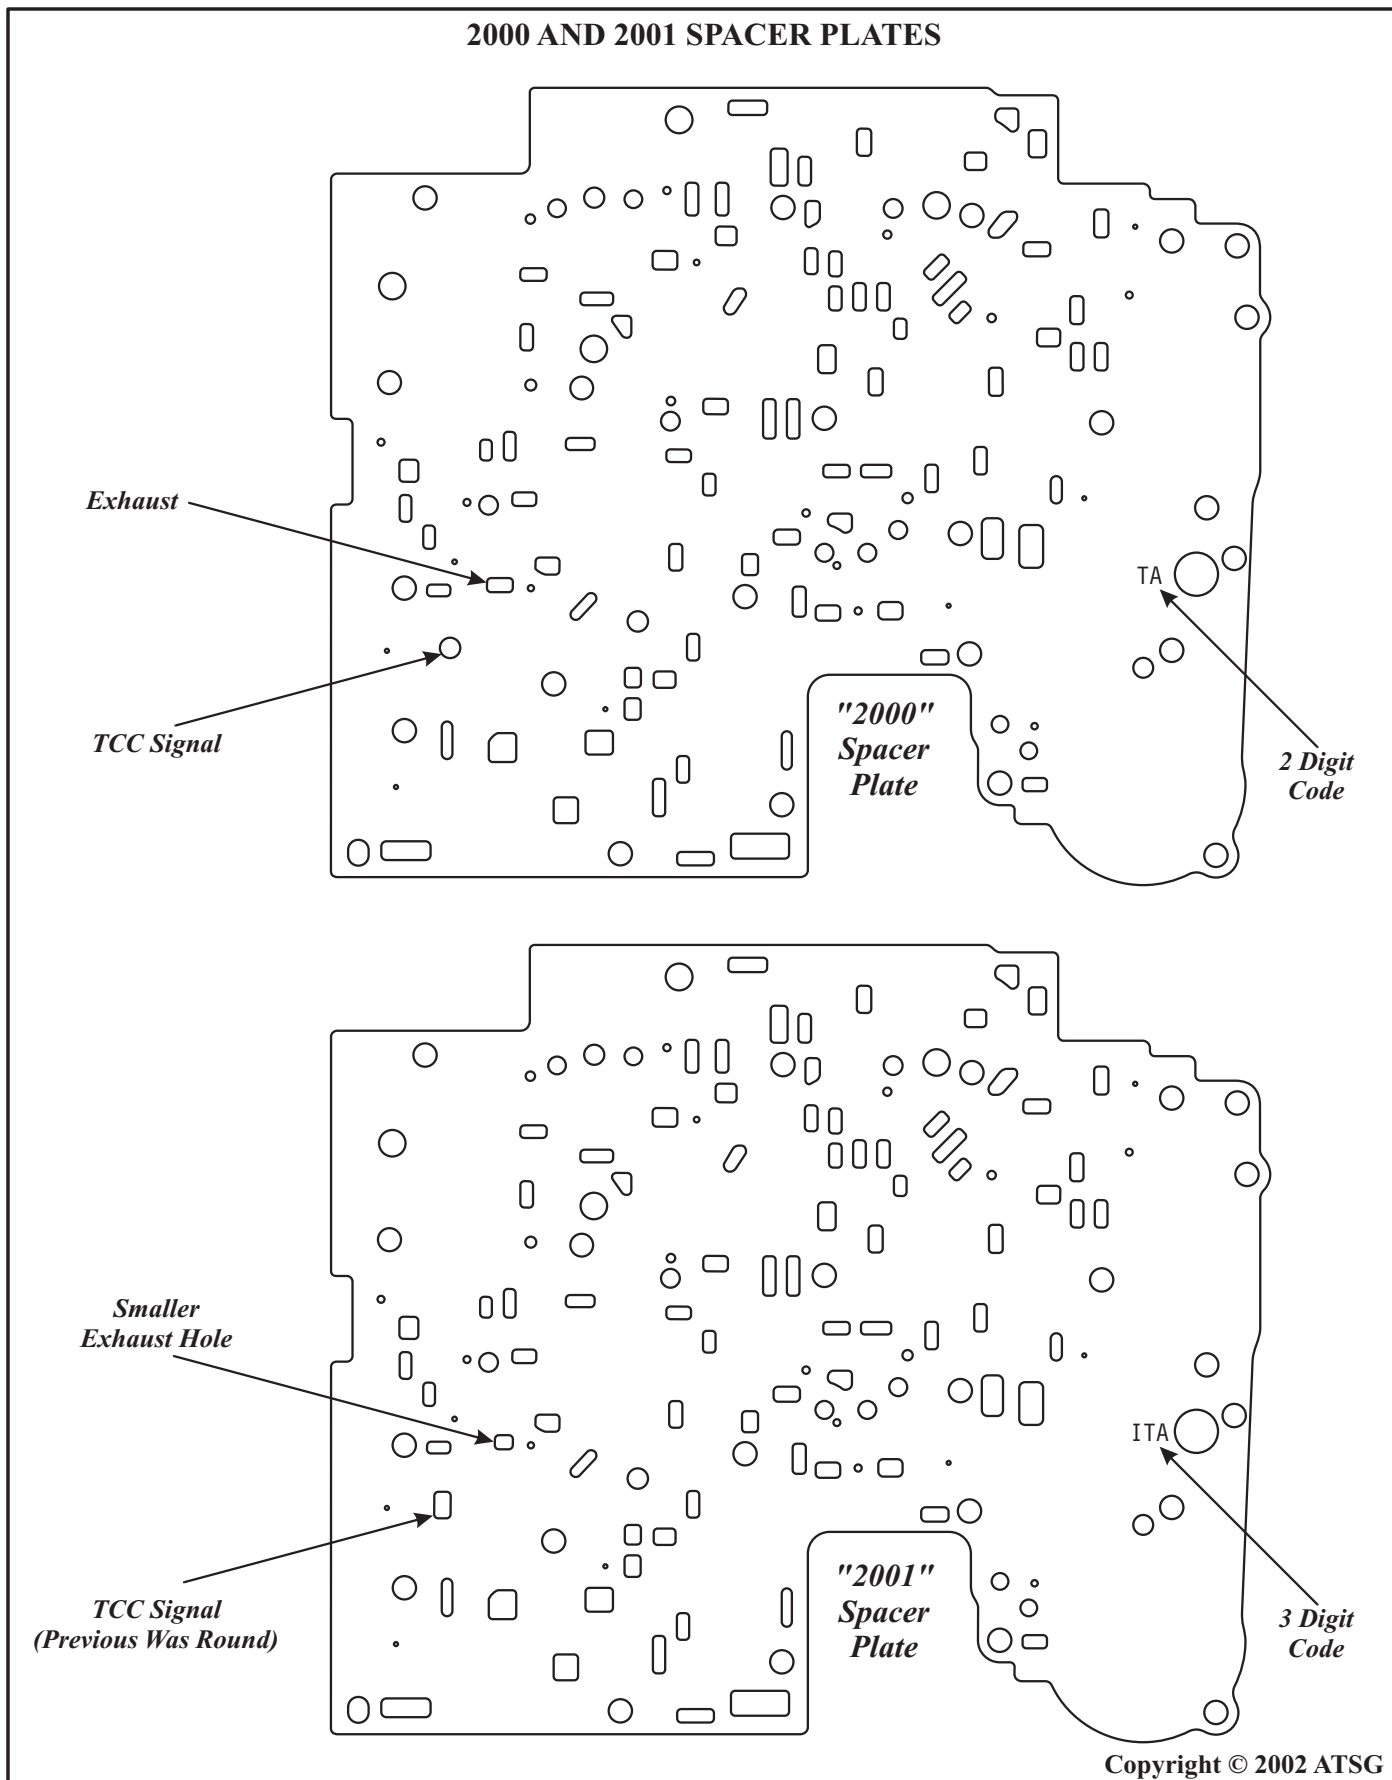

Figure 3
- (3) **SPACER PLATE** - There are two holes in the spacer plate that have been revised, as shown in Figure 3, to accommodate the new design converter clutch regulator and isolator valves.
CORRECTION: Sonnax manufactures two different kits to repair the current valve body castings, both of which require a reamer, also available from Sonnax. One of the kits, Sonnax part number 77754-03K, fits 1993 thru 1997 model transmissions, but they require different assembly processes. Refer to Figure 1 for the 1994-1994 models and Figure 2 for the 1995-1997 models, for the proper assembly. The other kit, Sonnax part number 77754-04K, fits only the 1998 and later ECCC models, as it is a different calibration. Refer to Figure 3 for proper assembly of the 1998 and later models. The reamer required is the same for either kit and is available under Sonnax part number 77754-R2.